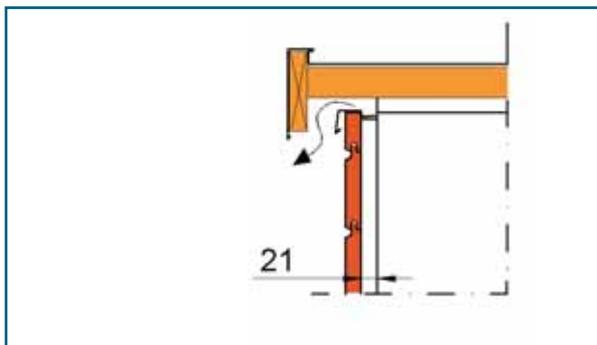

Figure 9. Upper edge detail showing ventilation gap above top board.
3. The drained and ventilated cavity should extend from the lower edge to the upper edge of the wall and be open from both edges to allow vertical circulation of air (See figures 9 and 10).
Recommendation for upper edge and lower edge details are presented in figures 9 and 10. Take into account the surroundings, local vegetation, ground and climate as well as the territorial requirements and conditions when designing the details.